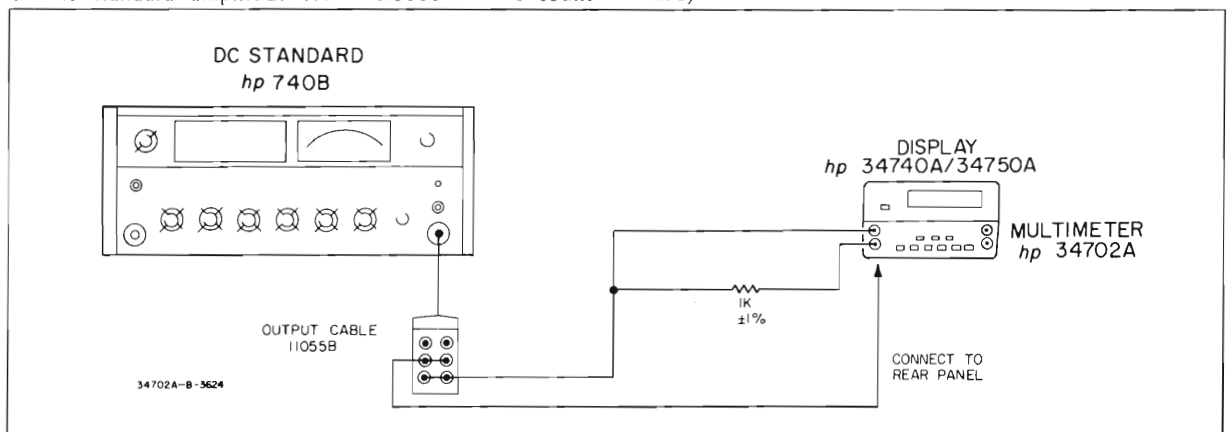

Figure 5-2. Effective Common Mode Rejection.
a. Disconnect all previous connections to the Model 34702A input and connect the equipment as shown in Figure 5-2. Set the dc standard for a +10 V output. Set the 34702A to the 1 V range.